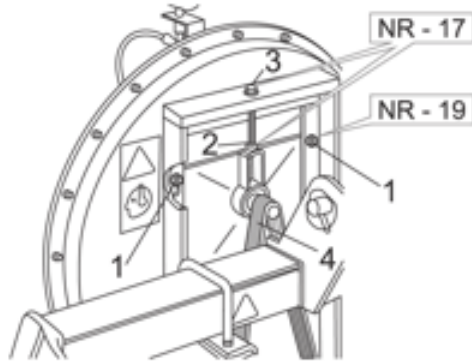

Fig. 38
The impeller (Fig 38) creates a vacuum inside the distributors, so that the seeds are aspirated onto the holes in the plate. The tensioning and the good condition of the belt (4, Fig 38) have a vital importance for the operation of the impeller and the success of the sowing. The belt is correctly tensioned when it does not yield under the pressure of a hand.
- Loosen the screws(Fig.38 no:1)
- Loosen the nut (Fig.38 no:2)
- Tension the belt by tightening the screws (Fig.38 no:3)